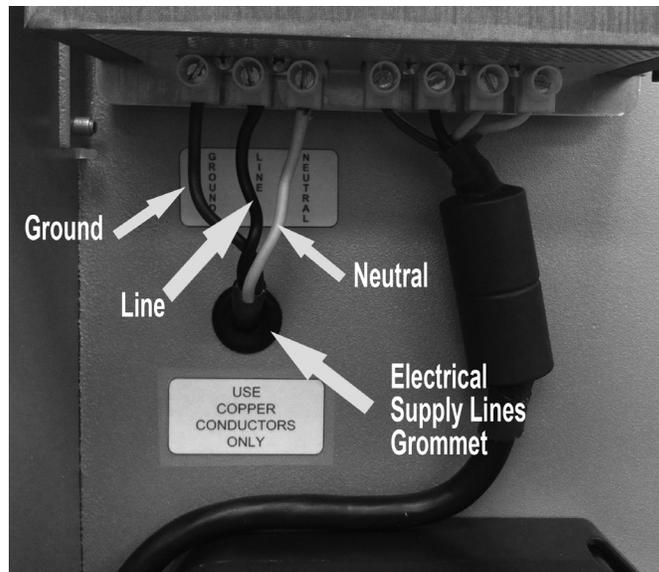

Figure 7 – Input Wiring Termination
8. Feed electrical supply through either rear or bottom entry location on left of unit. If rear entry is used, secure conduit to rear housing with appropriate hardware. Feed wires from left to right of unit through bottom rear wire access hole. Route cable upwards and feed from right to left of unit through cable pass-through grommet between cord reel and circuit board. (See Figure 6 on previous page and Figure 7 below)
9. Terminate Line, Neutral, and Ground wires per Figure 7.
<p>None of the status lights are illuminated. L1 PowerPost™ EVSE does NOT charge vehicle when charge coupler is plugged in.</p>	<ul style="list-style-type: none"> <li>• Interrupt power to the L1 PowerPost™ EVSE and lock out as appropriate. Disassemble unit per steps 3-5 above. Restore supply power to L1 PowerPost™ EVSE. Verify that proper supply voltage is present at the L1 PowerPost™ EVSE terminal block. (See Figure 7)</li> <li>• Interrupt power to the L1 PowerPost™ EVSE and lock out as appropriate. Verify that supply power wiring is securely terminated to incoming power terminal block.</li> <li>• Interrupt power to the L1 PowerPost™ EVSE and lock out as appropriate. Remove incoming power fuse and verify continuity. Replace fuse if blown.</li> <li>• If these steps do not resolve the problem, contact Telefonix technical support.</li> </ul>
4. Disconnect the supply wiring and cord reel wiring from their respective terminal blocks. (See Figure 7 in the Installation section)
8. Reconnect the supply wiring to the terminal block per Figure 7 in the Installation section.